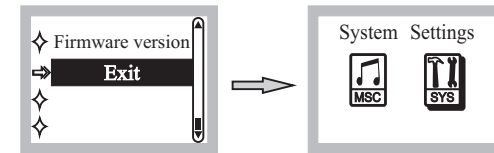

Fig. 24
- (8) Exit: Return to Music & System Settings (Main Mode), Fig. 24.